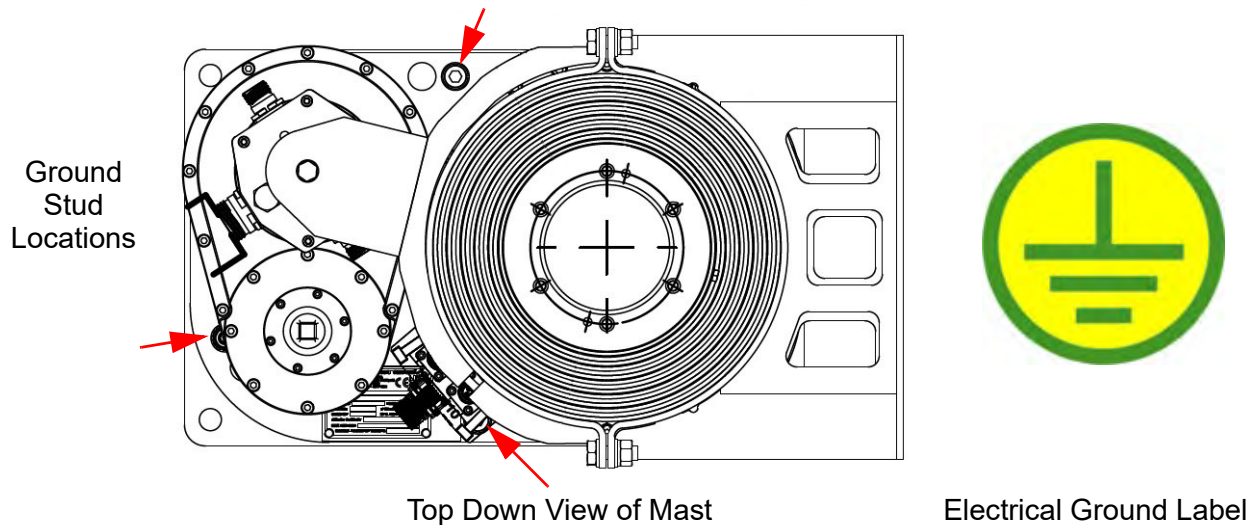

Figure 5-6 Ground Stud Locations
3. Attach one end of the ground strap to the mast at any of the ground stud locations. The M5 ground stud provided can be moved to any of the ground stud locations as needed. The Ground Stud locations are designated with the electrical ground label (Figure 5-6). Torque to 24-31 in.-lb. (2.7-3.5 N-m).